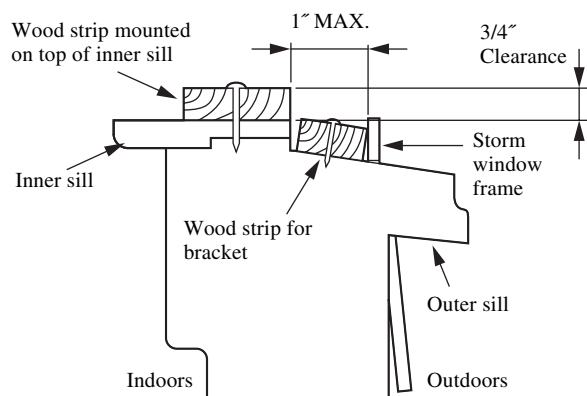

FIG. 8
- If storm window presents interference, fasten a 2" wide wood strip to inner window sill across the full width of the sill. Wood strip should be thick enough to raise the height of the window sill so that the unit can be installed without interference by the storm window frame. See FIG. 8. Top of wood strip should be approximately 3/4" higher than storm window frame or wood strip (outdoors) to help unit condensation to drain properly to the outside.
- Install a second wood strip (approximately 6" long 1" wide and same thickness as first strip) in the center of the outer sill flush against the back of the inner sill. This will raise the bracket as shown in FIG. 8.